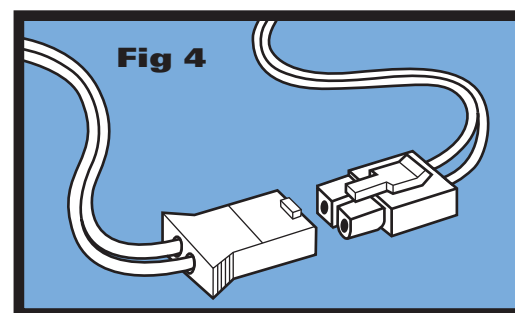

Fig 4
2. Plug BATTERY JACK into VEHICLE JACK as shown. (Fig. 4)